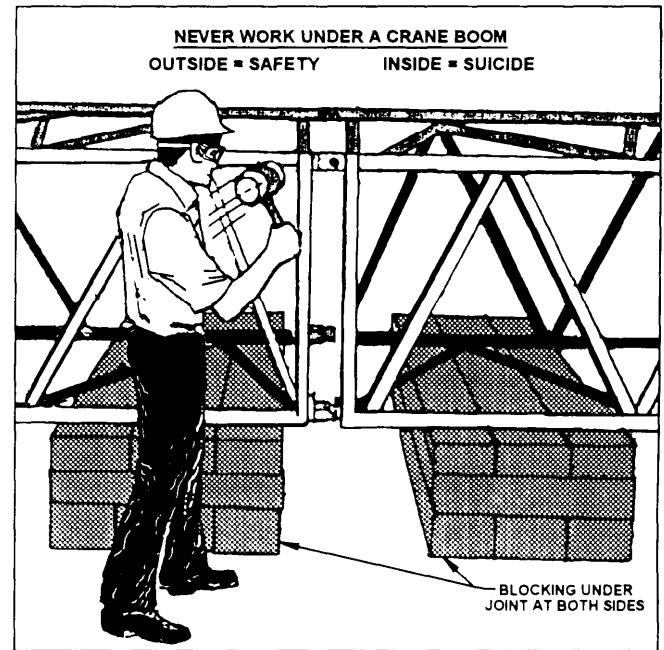

Figure 12-25.—Drive pins from the outside in.
**NEVER WORK UNDER A CRANE BOOM.** Because so many accidents have occurred while personnel were changing booms, some manufacturers have made a one-way connecting pin that can only be installed from the inside. This requires the pin to be removed only from the outside, keeping personnel from getting underneath the boom (fig. 12-25). A common practice in the NCF is to install the pins from the inside out to prevent personnel from maneuvering inside the boom to drive out the pins.